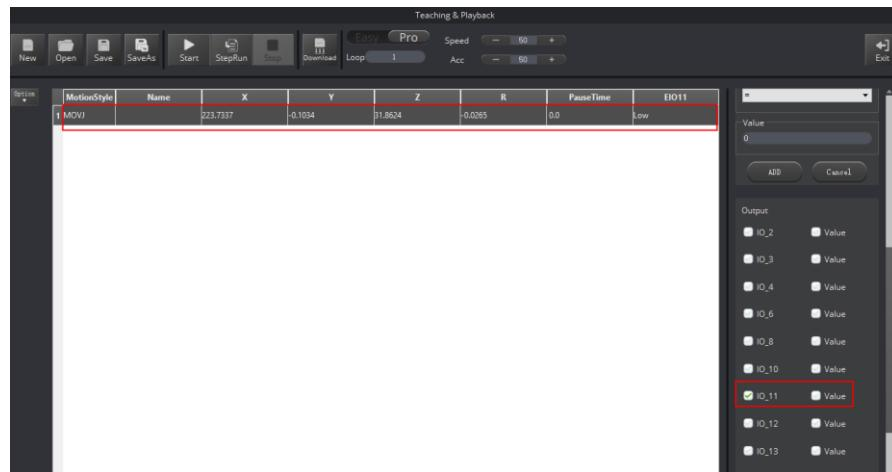

Figure 5.212 Saved point
**Step 2** Select **IO\_11** on the Output pane, and click **+Point**, as shown in Figure 5.212.